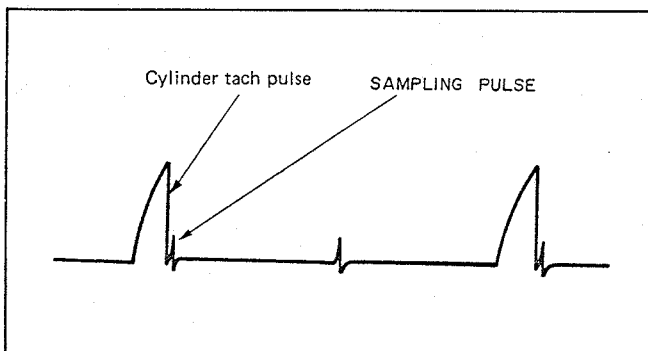

Fig. 4-104 Cylinder Motor Speed (With short-circuiting disconnected)
5. Remove the jumper between TP601 and TP901 and confirm the sampling pulse is locked in on the trailing edge of the cylinder tach pulse. (See Fig. 4-104)